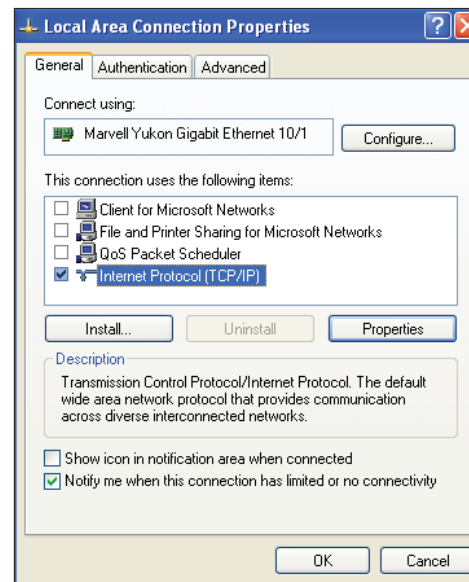

Figure 7: Local Area Connection Properties Window
- 5.) As shown in **Figure 7**, in the Connection Items list box, be sure the **Internet Protocol (TCP/IP)** is checked. Select the **Internet Protocol (TCP/IP)** item to highlight it and then click <Properties>. The *Internet Protocol Properties Window* will appear.